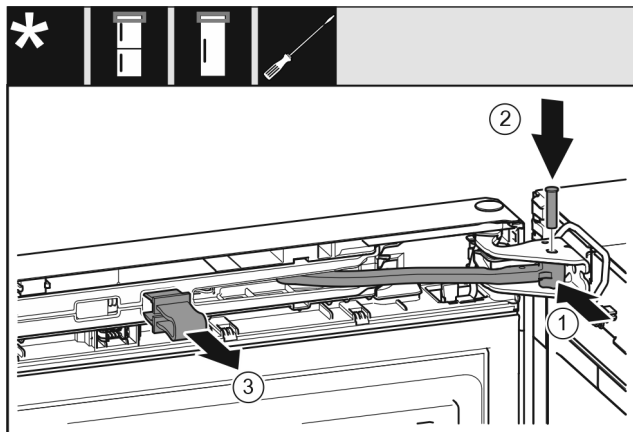

Fig. 24
- ▶ Turn the joint *Fig. 24 (1)* in the bearing block.
- ▶ Insert the bolt *Fig. 24 (2)* into the bearing bracket and joint. Ensure that the latching cam is in the groove properly.
- ▶ Remove the safeguard *Fig. 24 (3)*.